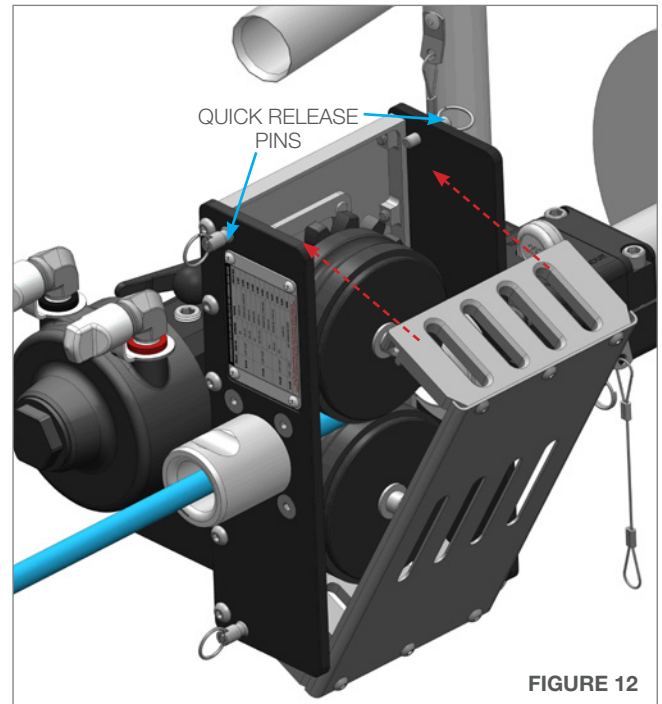

FIGURE 12
4. Push the back cover back into the closed position and secure the two Quick Release Pins on the top of the AUTOBOX® ABX-PRO TRACTOR. **(Figure 12)**